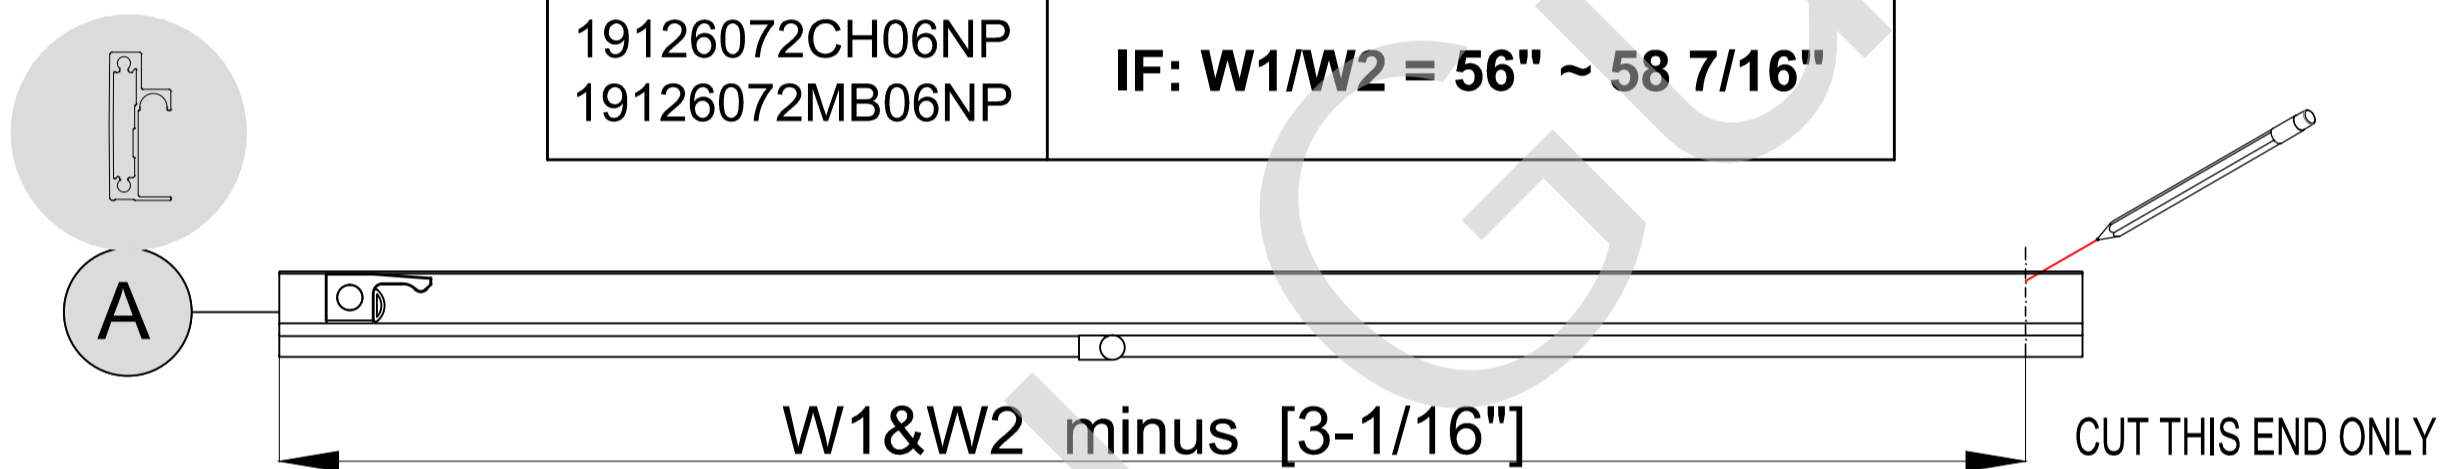

Fig.2
Model No.	Top and bottom Rail need to cut as Fig.2&Fig.3
1. Using a pencil or another marking tool , mark distance on the Top and bottom Rail (A) from the edge of the Top and bottom Rail (A) as shown in Fig.2.
2. Cut the Top and bottom Rail (A) to: "W1&W2" dimension minus [3-1/16"]